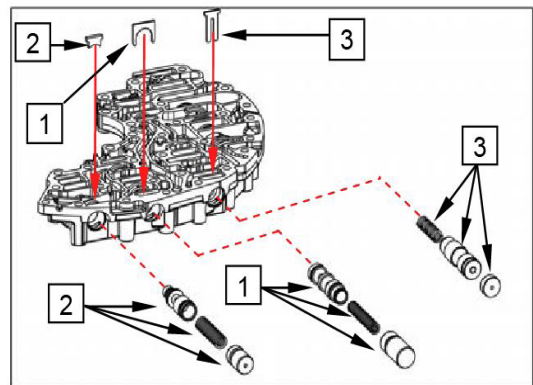

Figure 616
Install the main pressure valve (2) and the retarder valve (3) analogously (Figure 616).